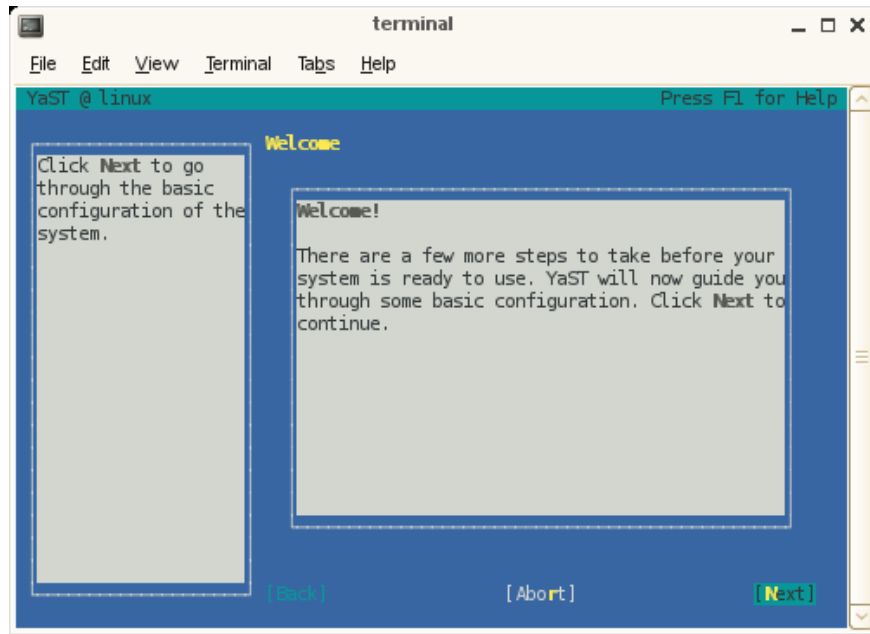

Figure 2-2 YaST **Welcome** Screen
6. After the reboot completes, the YaST first boot installation tool starts and a **welcome** screen appears, as shown in Figure 2-2 on page 38. Click on the **Next** button to proceed.